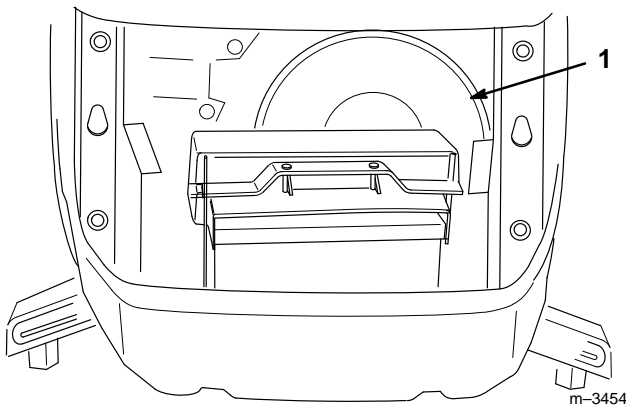

Figure 21
7. Remove the belt from around the PTO pulley (Fig. 21). Additional belt slack can be obtained (if needed) by turning the belt tension adjustment knob.